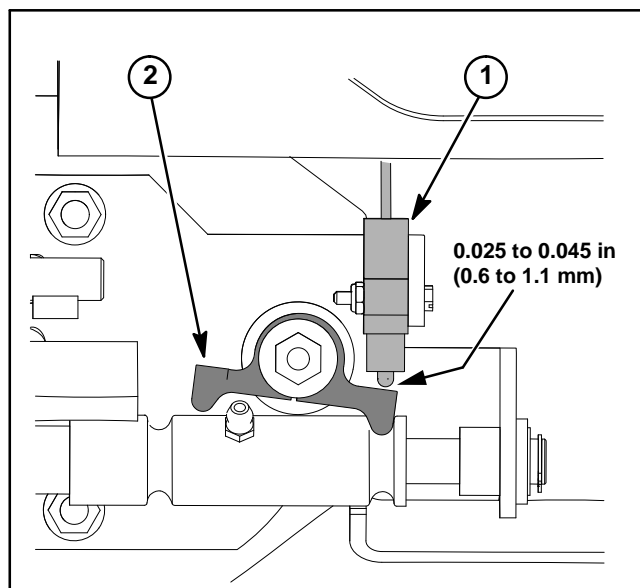

Figure 19
2. When the mow/transport lever is on the transport position, the clearance between the rocker arm and the switch should be **0.025 to 0.045 in (0.6 to 1.1 mm)** at the closest point (Fig. 19).